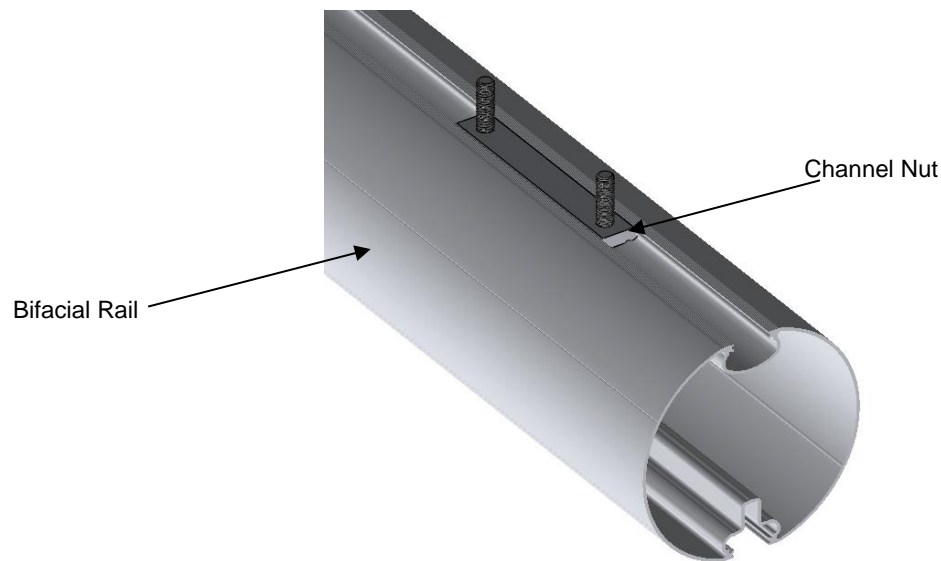

Figure 10: Channel Nut Placement (one end shown)
- b. Lay the bifacial rail upside down on a horizontal surface and place one channel nut on either end of the rail into the shallower groove of the rail as shown in Figure 10.